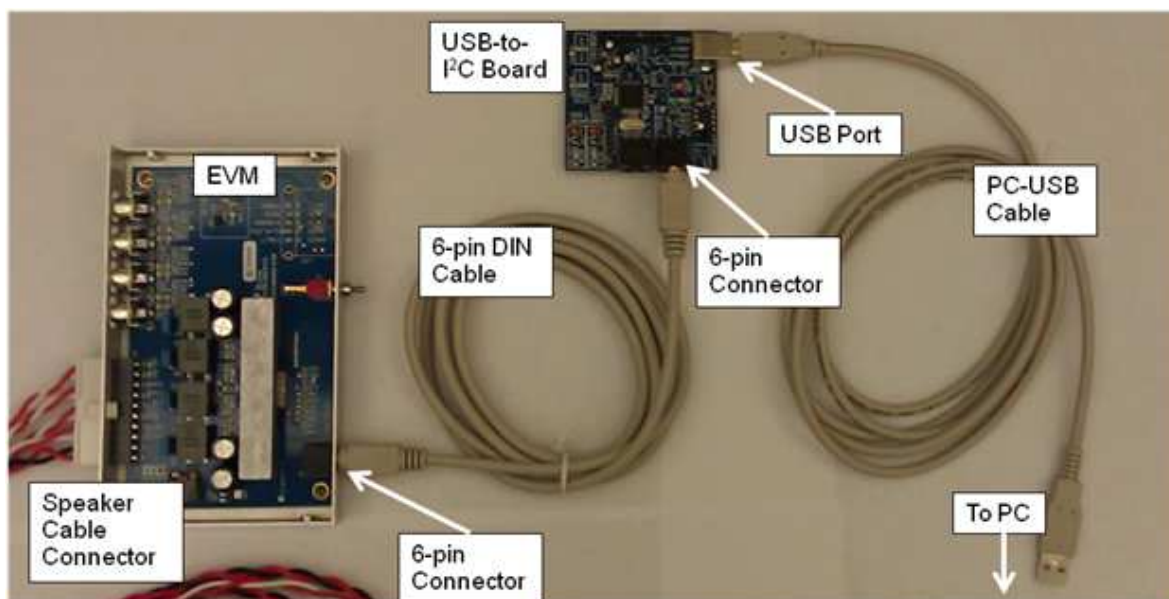

Figure 1. EVM to I²C Device Connections
The EVM consists of a single printed circuit board (PCB) mounted inside a metal chassis for EMC testing. The EVM must have an external I²C controller board to function. The USB-to-I²C controller board connects to a personal computer (PC) through a USB cable. The EVM connects to the I²C controller through a supplied 6-pin DIN cable. The PC needs the graphical user interface (GUI) software to control the EVM. See Figure 1 for the device connections.
In the EVM package is a small PCB labeled USB2IIC2 on the PCB. This is the USB-to-I²C converter to communicate from the PC to the EVM. Connect the USB cable to the PC and the PCB. Connect the 6-pin cable to the connector labeled I²C on the converter PCB to the 6-pin connector on the EVM. The USB connection provides power for this card. The PC should automatically connect to the USB-connected PCB. See Figure 1, *EVM to I²C Device Connections*, for more details.